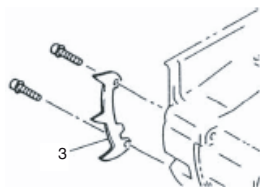

Fig. 2
* In case of installing the spiked bumper (3), install the spiked bumper (3) to the unit with two screws. (Fig. 2)